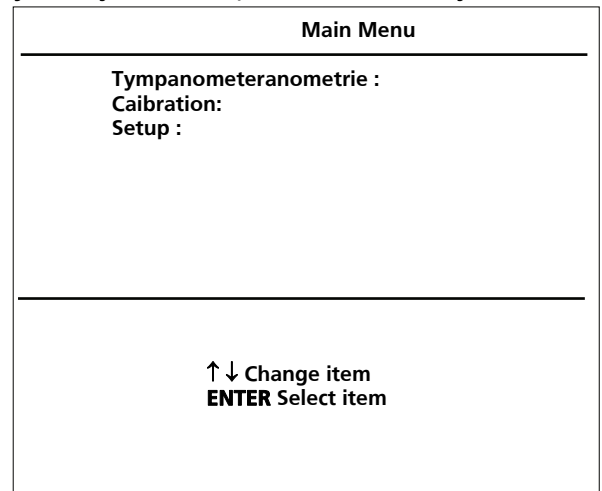
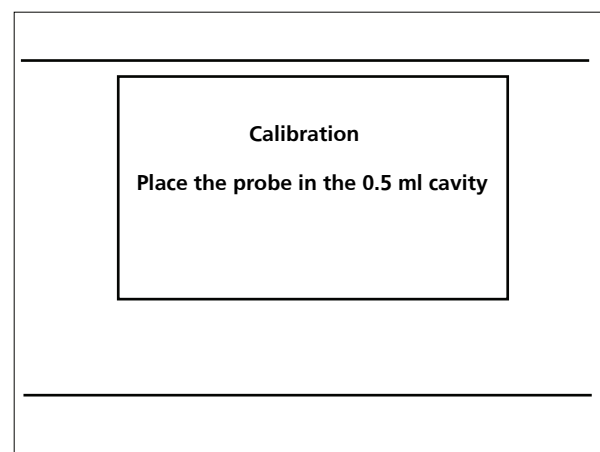

Figure 6
Figure 7
Press the menu key ⑧ and the main menu (figure 6) appears on the LCD display ⑤. Select the menu option Calibration with the Down button ⑩. Press Enter ⑬ and follow the instructions on the LCD display ⑤, as shown in Figure 7.